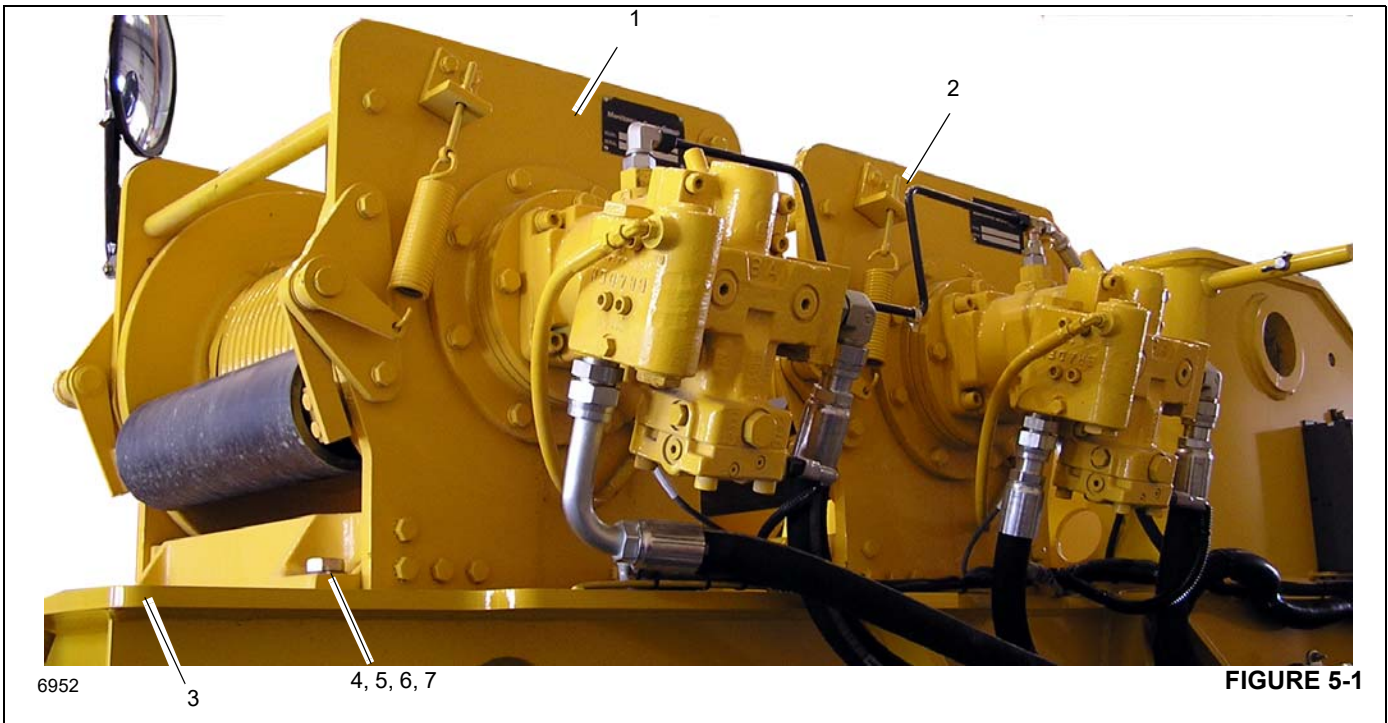

FIGURE 5-1
8. Add shims to satisfy any existing gaps. Altering the shim thickness to fit a tapering gap is acceptable. Install the capscrews, washers and nuts (Figure 5-1) and torque. Refer to Fasteners and Torque Values (pg 1-14).